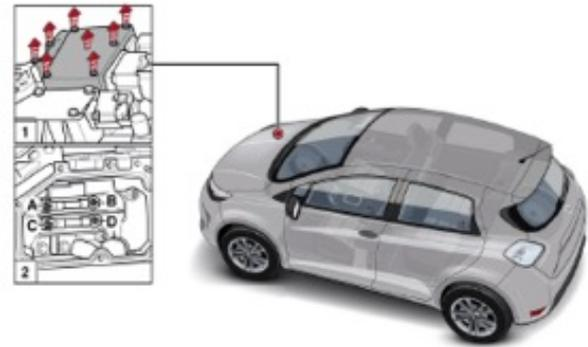

Figure 3. Fuse box Renault ZOE
- 19) Disassemble the cover access to the electric vehicle's charger fuse box figure 3.
21) Assemble the cover access to the electric vehicle's charger fuse box with a new gasket figure 3.